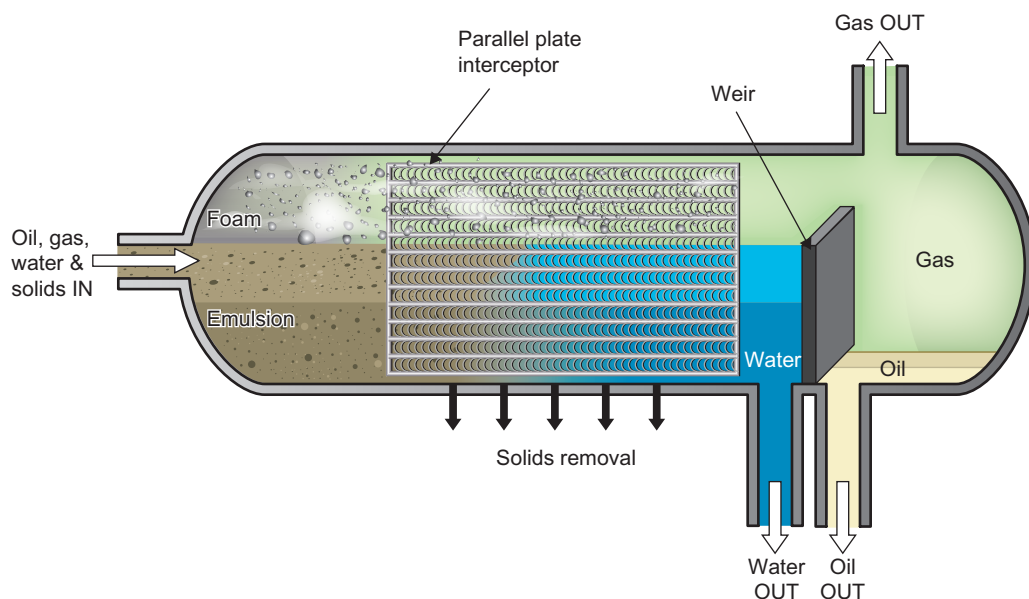

Figure 15.14 Weir in a decanter.
- Weir**—a flat or notched dam or barrier to liquid flow that is normally used either to measure fluid flows or to maintain a given depth of fluid (setting the level). Figure 15.14 shows an example of a vessel (decanter) with a weir. In this example, anything that is above the weir flows over. Oil is lighter than water; it overflows the weir and is removed as the heavier component out the bottom. Because gasoline is also lighter than water, gasoline overflows the weir and is removed as gas out the top. This weir is used to separate three substances (oil, gasoline, and water) in a mixture.